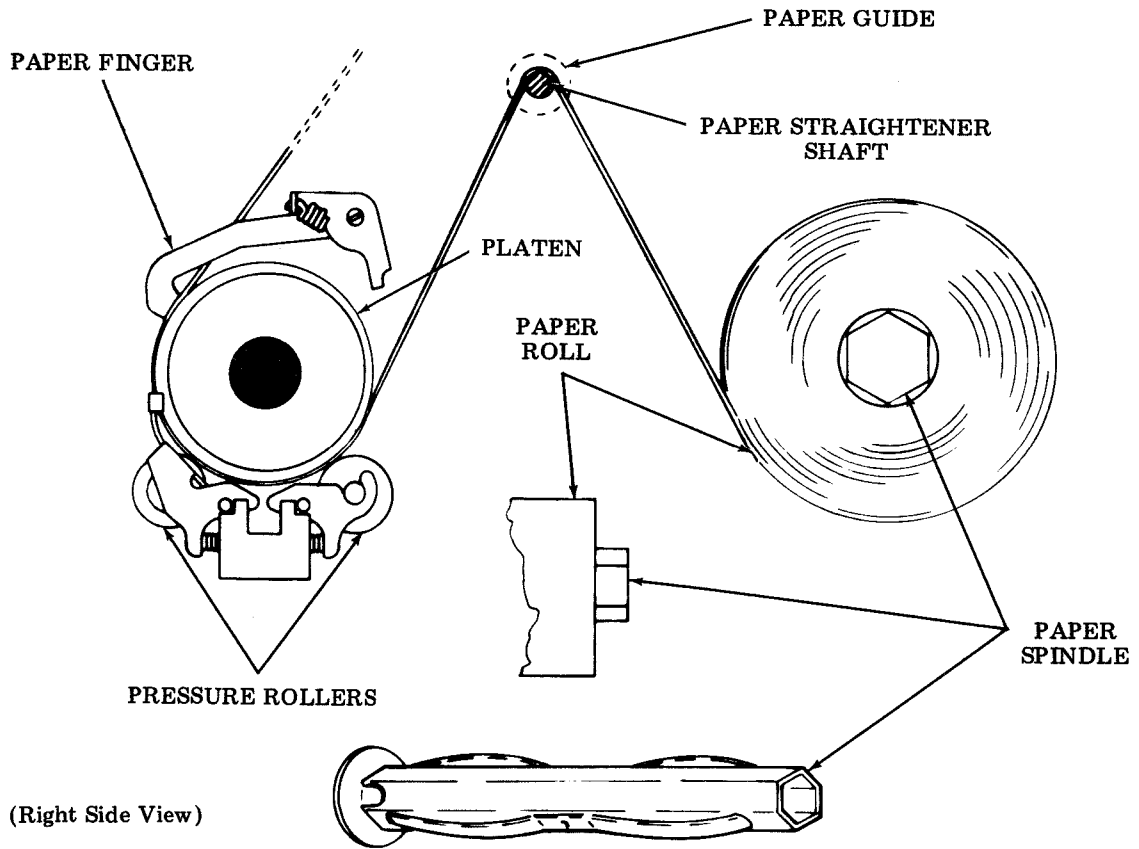

Figure 14 - Paper Routing Assembly - Friction Feed
4.20 Insert the paper spindle into the paper roll and install the paper roll into the spindle blocks. Flip the paper release lever on the top of the right side plate towards the rear of the typing unit to release the pressure rollers. Route the paper over the paper straightener between the two paper guides (Figure 14). Lift the paper finger on the platen and insert the paper between the platen and the pressure rollers. Flip the paper release lever towards the front of the typing unit to hold the paper between the platen and pressure rollers. Turn the handwheel to move the paper through the platen assembly, leaving one foot of loose paper. Lower the paper fingers on the platen assembly and hold the paper towards the front of the typing unit. Close the rear lid. Close the front lid, and position the paper between the window and the paper guide. Be sure that the cover and lids are latched.